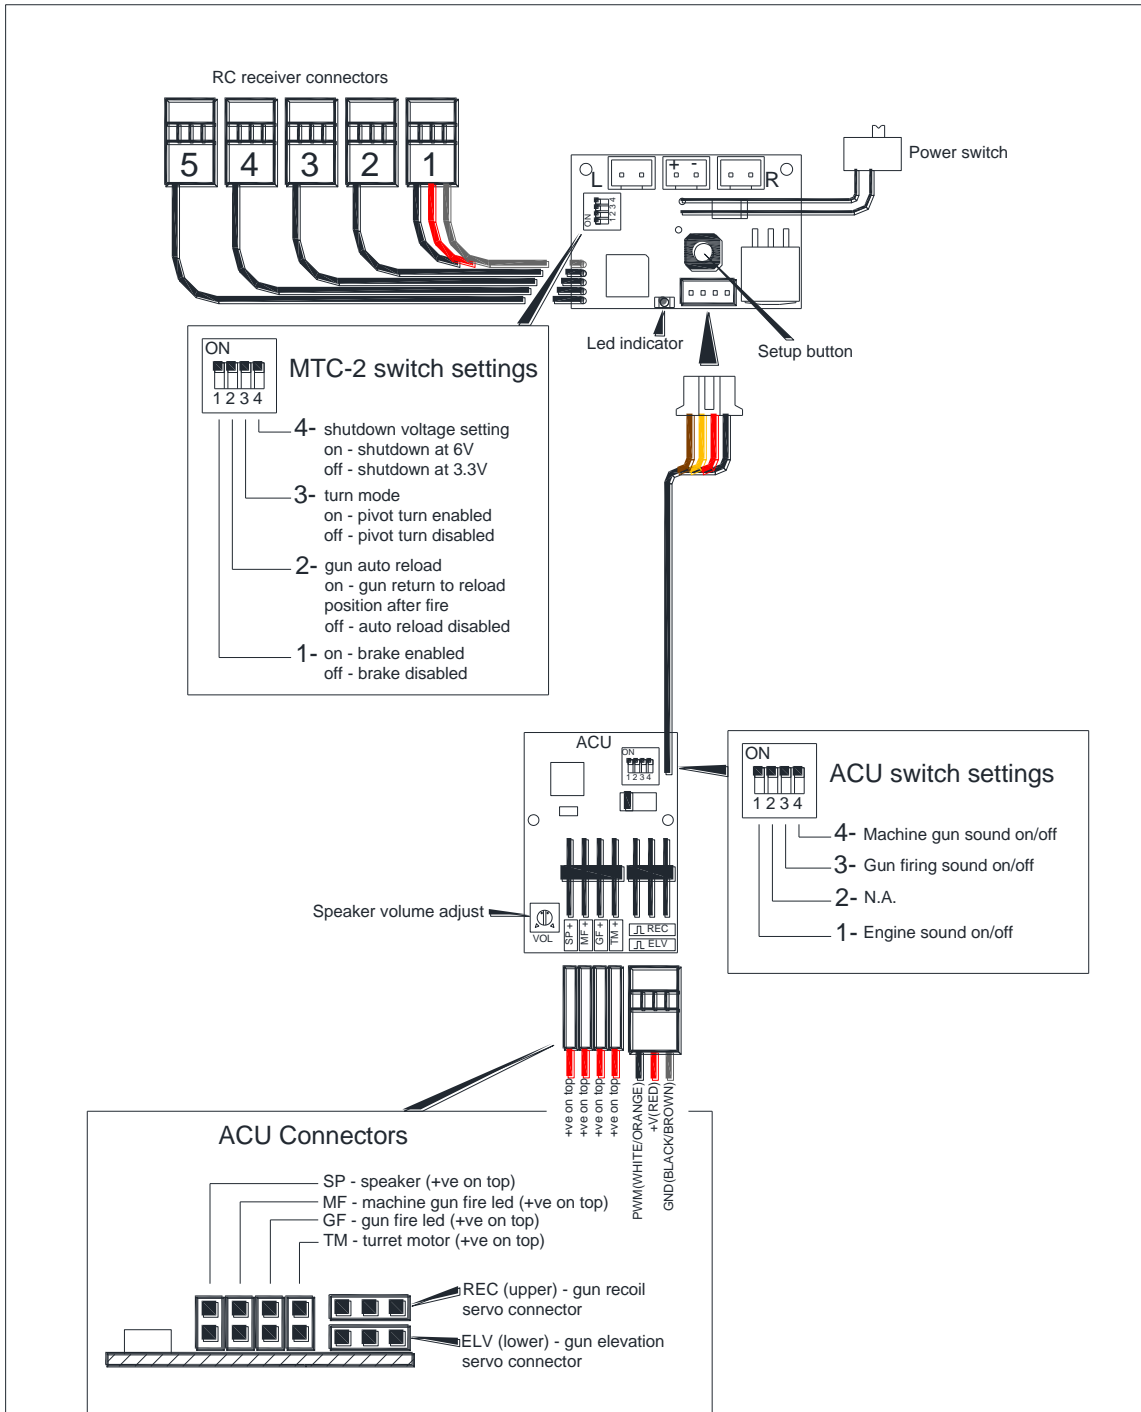

Fig.1 - MTC-2 and ACU
- Pivot turn is disabled when dip switch 3 is switched off (Fig.1).
- Both sound effects can be disabled by dip switches (Fig.1).